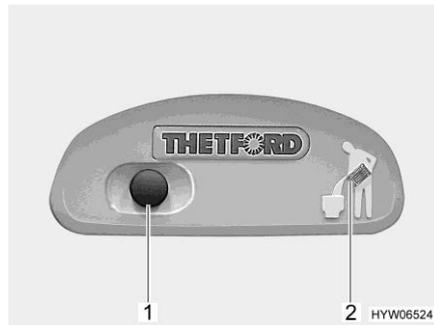
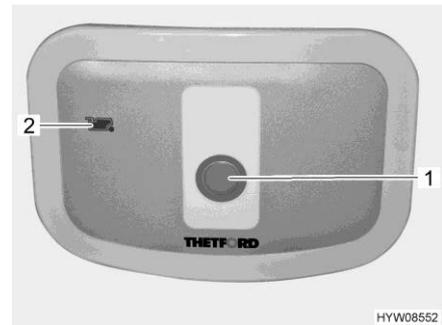

Fig. 274 Flush button/indicator lamp Thetford toilet
Fig. 275 Flush button/indicator lamp Thetford toilet (alternative)
- For flushing, press the blue flush button (Fig. 274,1 or Fig. 275,1).
The indicator lamp (Fig. 274,2 or Fig. 275,2) lights up whenever the sewage tank has to be emptied.